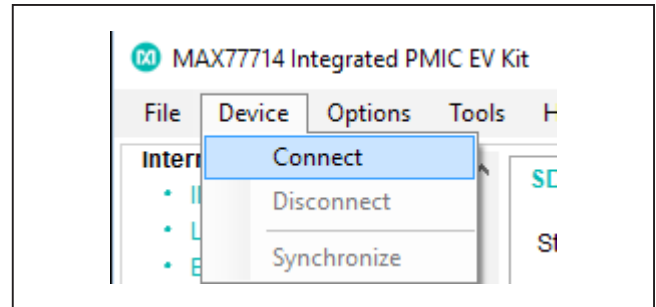
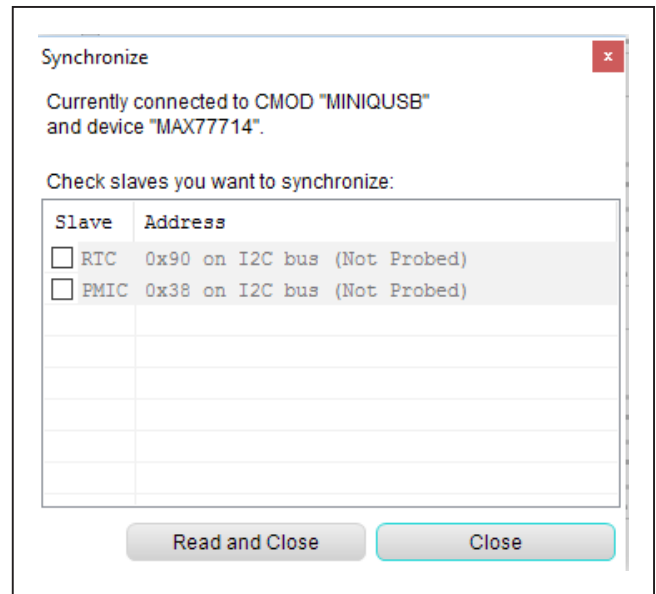

Figure 2: Connecting to the EV Kit
Figure 3: Connecting to the MAX77714
- 7) Open the GUI, and in the upper left corner, select **Device** and then select **Connect** as shown in Figure 2. Once connected, a pop-up window appears as shown in Figure 3. Press the **Read and Close** button.